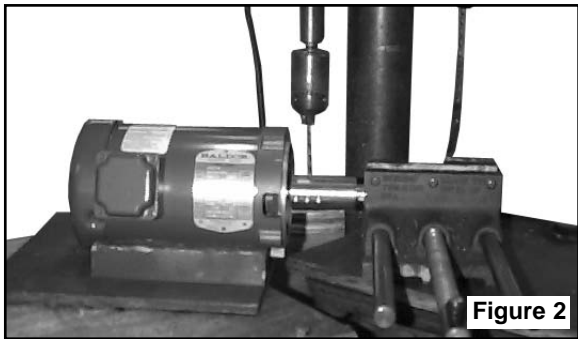

Figure 2
9. Pry off rotating member of mechanical seal from sleeve by using two (2) screwdrivers. (Figure 2)
and opposite side of stub shaft. See Figure 2.